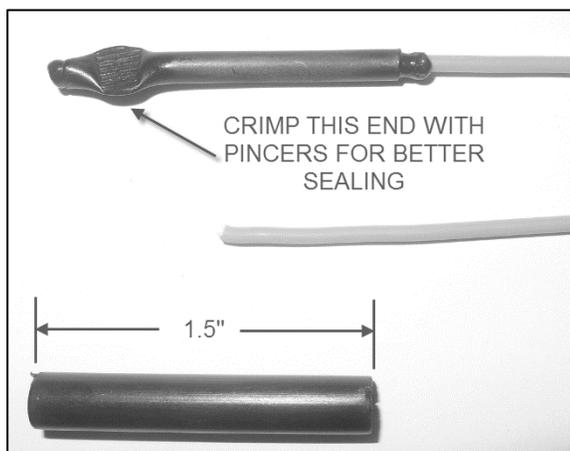

FIGURE 4
5. Cut the existing wire to remove terminal and seal wire with shrink tubing as shown in Figure 4.
7. Cut the existing wire to remove terminal and seal wire with shrink tubing as shown in Figure 4.